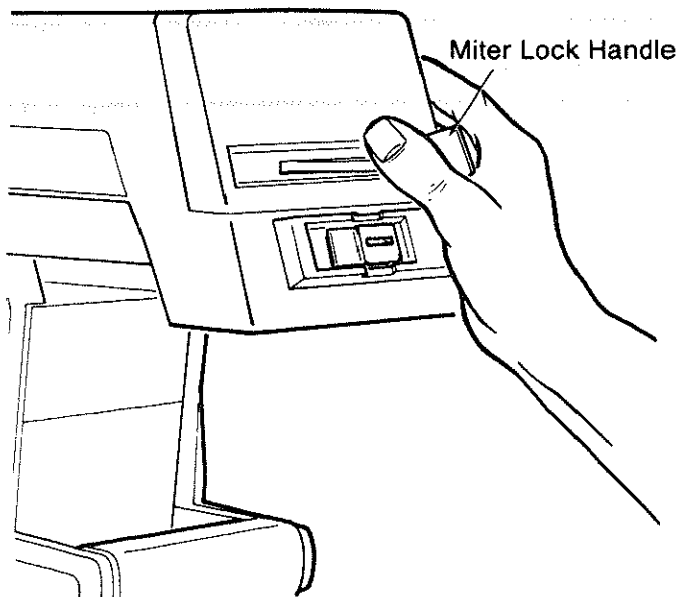

Fig. 128 - Miter Lock - Unlocked
1. Move the *arm* to an unindexed position and leave the *miter lock* in the unlocked position. (Figure 128)